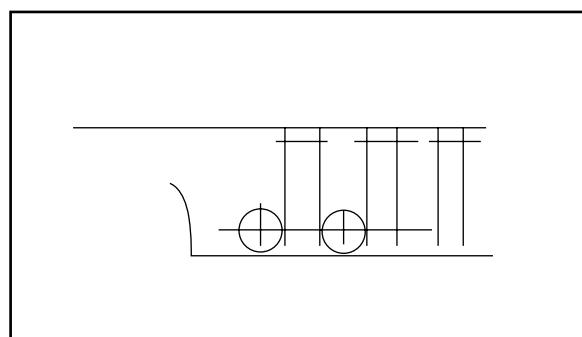

Figure 23.4 Transfer marks for the drill holes.
2. Transfer the location of the drill holes used to rough out the bolt and the location of the notches along the top edge of the bolt. Mark the drill locations with a sharp center punch. Use only well-sharpened drill bits with cutting edges that are uniform in length and ground to the same angle. This will minimize any holes from drifting out of position. The accuracy of these holes will determine the success of the lock. Start with a small diameter drill as a pilot hole, then step up to the final size, e.g., $\frac{1}{8}$, $\frac{3}{16}$, $\frac{1}{4}$, $\frac{5}{16}$ inch. After drilling the holes, use a hacksaw to remove the remaining metal. The notches along top edge of the bolt are cut using a hacksaw and chisel (Fig. 23.4).